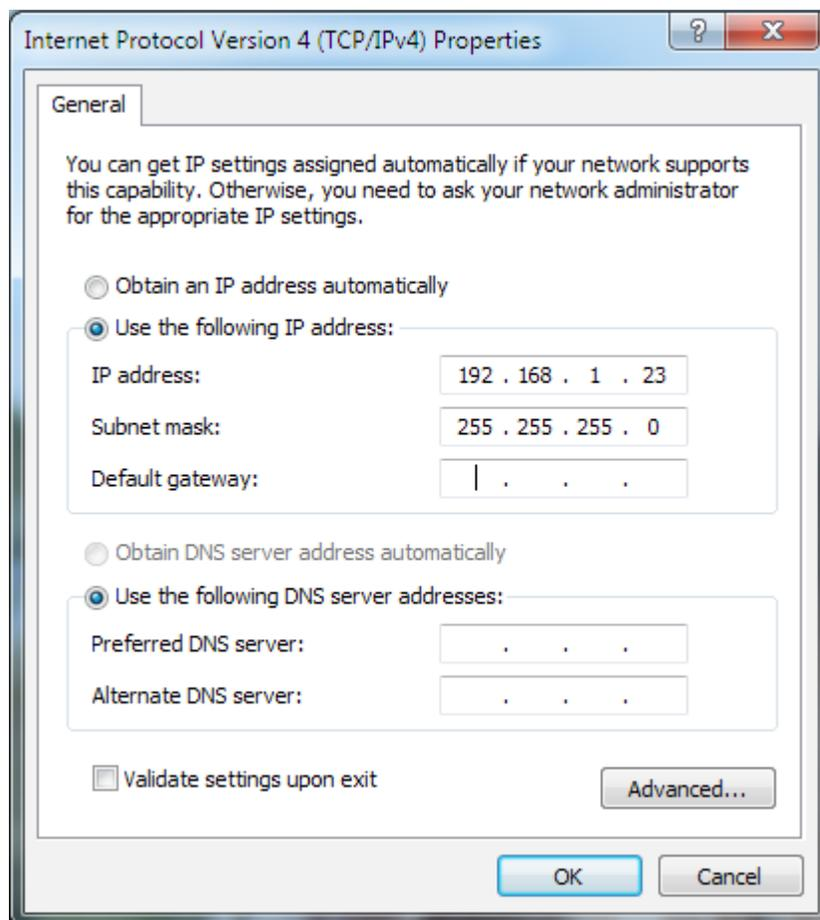

Figure 2.1 - Example of a PC Ethernet Port Settings Window
- A computer (PC or Mac) set to a static IP address in the subnet 192.168.1.xxx, where xxx is a subnet address (0 to 255) not being used by any other device on the network. Do not use 192.168.1.9 or the final IP address you will be setting the NL1 to. See Figure 2.1.